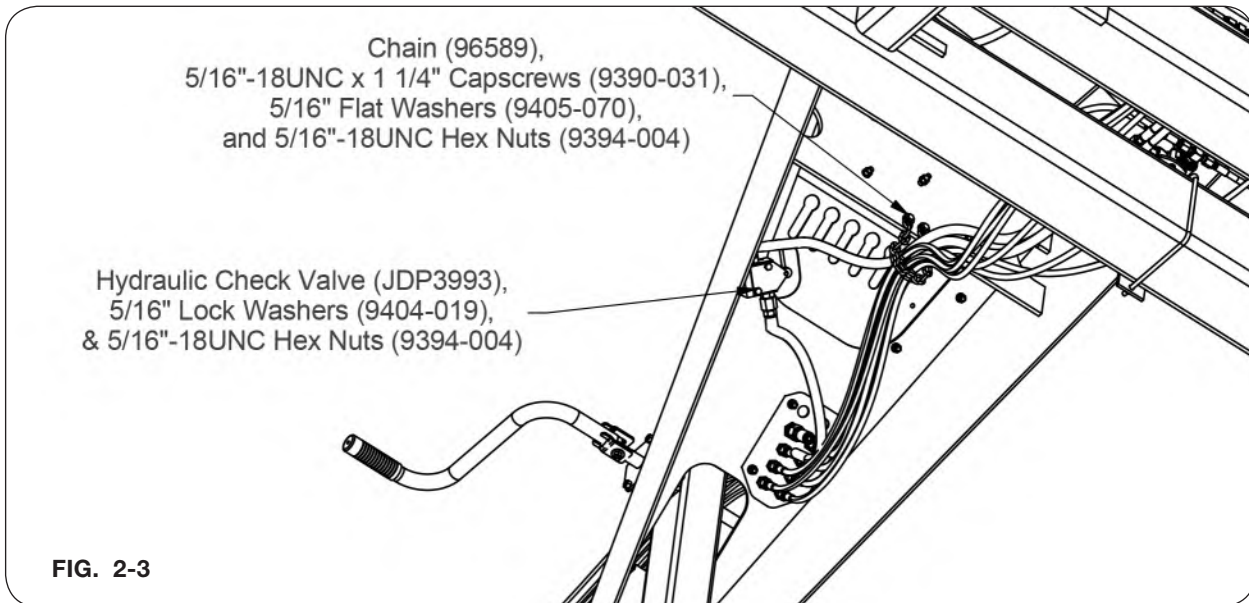

FIG. 2-3
5. Use chain (96589), 5/16"-18UNC x 1 1/4" capscrews (9390-031), 5/16" flat washers (9405-070), and 5/16"-18UNC hex nuts (9394-004) to support the hydraulic hoses to the underside of the tongue assembly. (FIG. 2-3)
6. Attach the hydraulic check valve (JDP3993) to the underside of the utility plate with two 5/16" lock washers (9404-019) and 5/16"-18UNC hex nuts (9394-004). (FIG. 2-3)